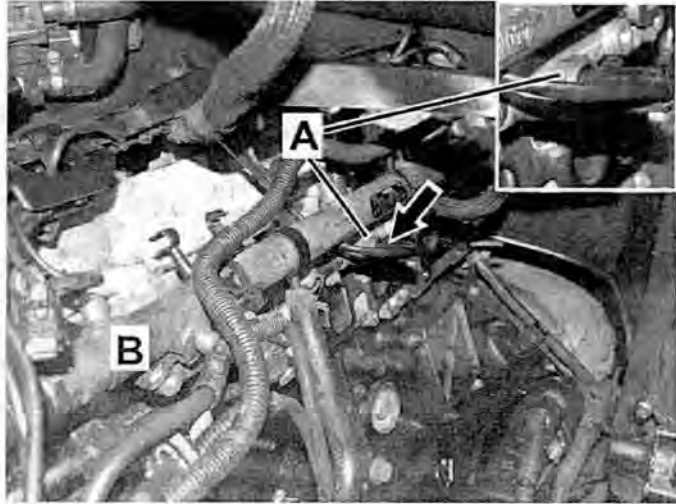

Figure 10
22. Disconnect connector (arrow, Figure 10) from fuel temperature sensor (A).